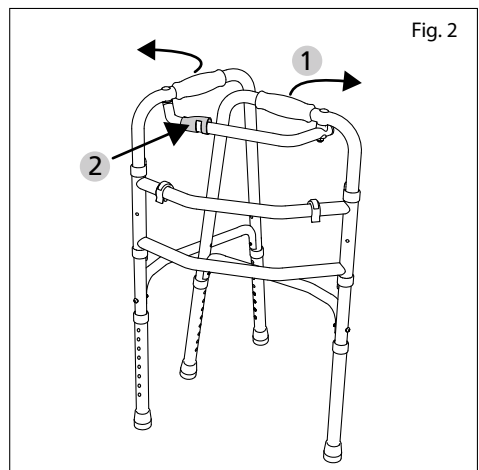

Fig. 2
3. When you unfold the second side element (1, Fig. 2), it will make an audible clicking sound. This means that the folding lock (2 Fig. 2) has engaged. You can check this by peering into the plastic part of the folding lock from the side. The spring pin should be clearly protruding from the tube.